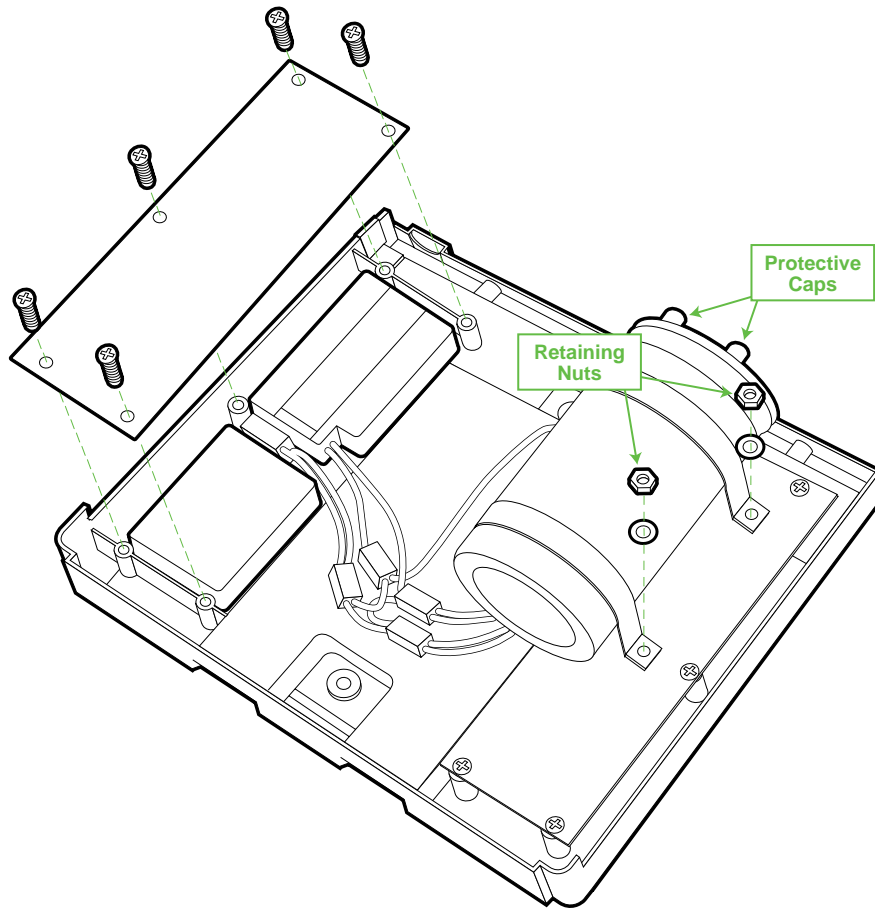

Figure 5-6. Internal Batteries / Energy Storage Capacitor
2. To remove the batteries, refer to Figure 5-6 to remove the five (5) screws from the battery retaining plate.